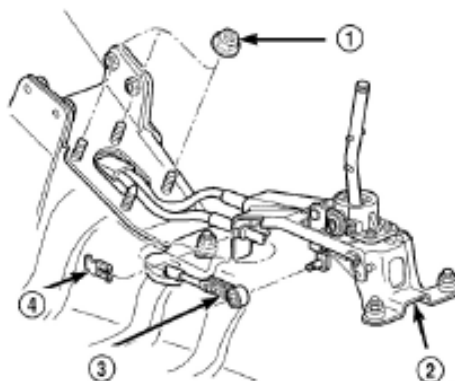

Figure 3-109 Switching cable on the transmission assembly
(5) Remove selector cable clamp out of the support (Figure 3-109).